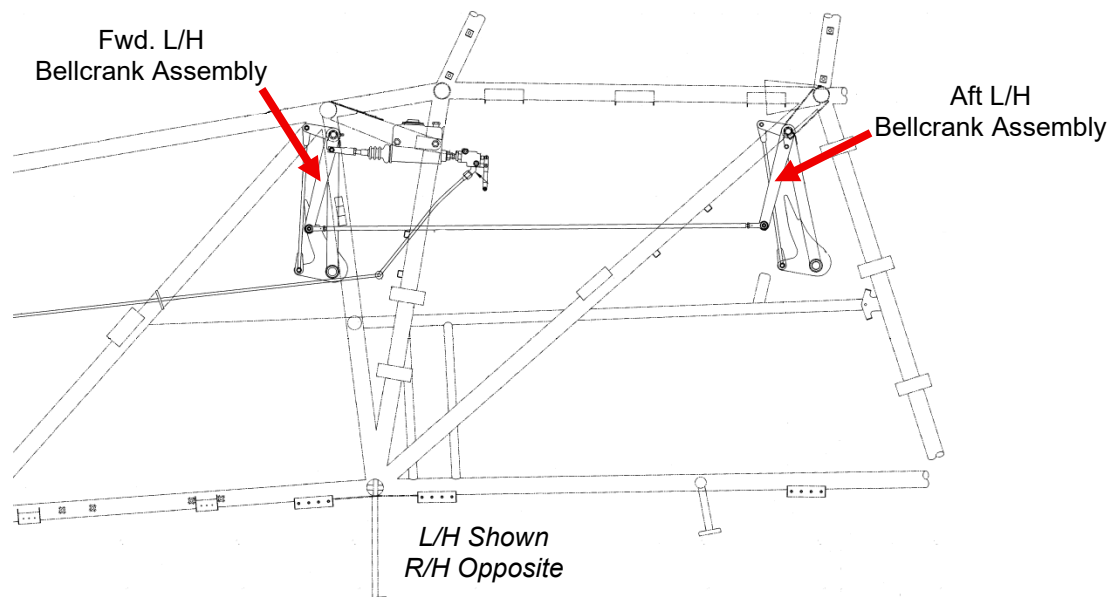

Figure 2
3. Remove existing L/H and R/H forward and aft bellcrank assemblies (reference Figure 2).